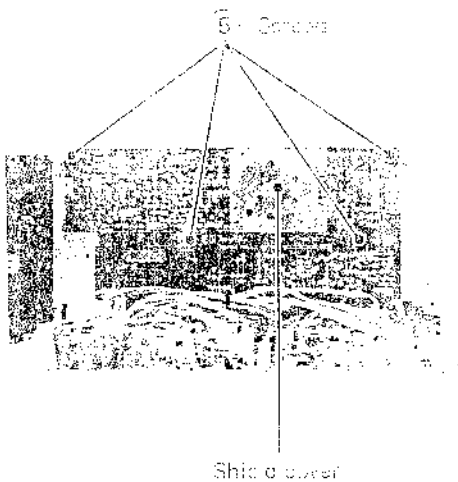

Fig. 3-14
1. Take out 4 screws ⑤ shown in Fig. 3-14.